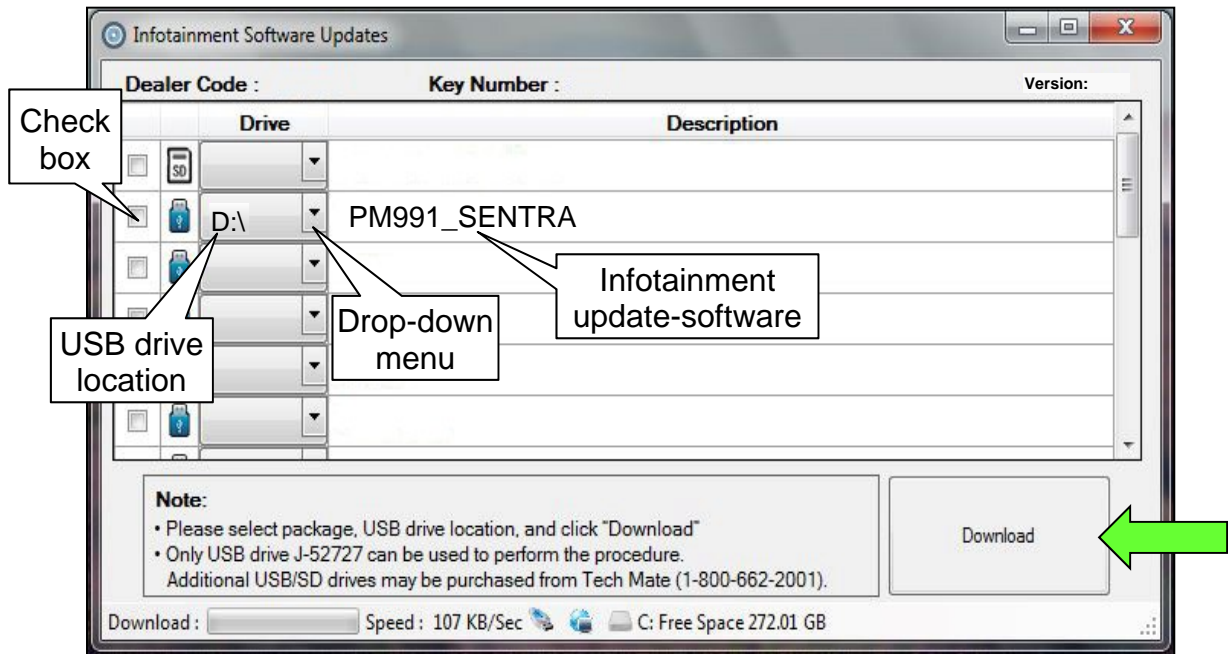

Figure 10
13. Select the check box next to infotainment update-software PM991_SENTRA (Figure 10).